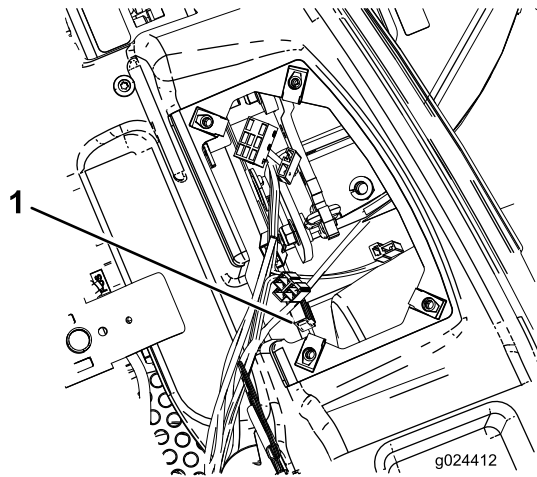

Figure 44
3. Grasp the engine fuse and pull it straight and away from the fuse block (Figure 44).